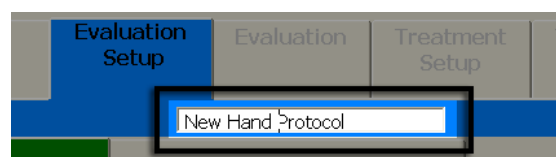

Figure 4e
Note: This name can be edited at any time by clicking the “Modify” button at the bottom of the screen and placing the cursor in the white text field at the top just underneath the *Evaluation* Tab (Figure 4e).
- e. This will make all fields active, including the template name text field (Figure 4e). If you want to rename the template, click inside the white text field to place your cursor.
This will make all fields active, including the template name text field (Figure 4e). If you want to rename the template, click inside the white text field to place your cursor. Clear undesired text using the delete/backspace keys on your keyboard and type in your new name.
- d. This will make all fields active, including the template name text field (Figure 4e). If you want to rename the template, click inside the white text field to place your cursor. Clear undesired text using the delete/backspace keys on your keyboard and type in a new name.